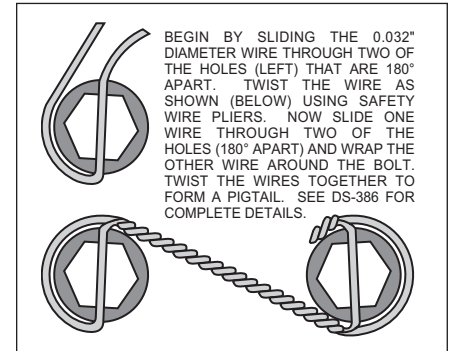

Figure 3. Safety Wire Diagram
- Insert one sleeve (2) each into the holes on the top and bottom of the spindle “ears” where the OEM caliper bracket was removed. Apply red *Loctite*® 271 to the caliper mounting bracket bolt threads (4) before installation of the caliper mounting bracket (1). Install the caliper mounting bracket (1) with the threaded inserts facing the outside of the vehicle. Slide bolt (4) through lock washer (3) into the previously installed insert (2) from the backside of the spindle. Finger tighten. Repeat for the lower mounting holes. Torque bolts to 47 ft-lb.
- With the larger I.D. side of the rotor (5) facing away from the hat (6), bolt rotor (5) to hat (6) through the backside of the rotor using washers (7) and bolts (8). Torque bolts (8) to 120-144 **in-lb**. Safety wire bolts (8) using standard 0.032 inch diameter stainless steel safety wire as shown in Figure 3. Please refer to Wilwood’s data sheet DS-386 (available at www.wilwood.com/pdf/ds386.pdf) for complete safety wire installation instructions. Slide the rotor/hat assembly onto the spindle. Install a couple of lug nuts (finger tighten) to keep the rotor/hat assembly in place while continuing with the installation.
- NOTE:** Please reference the caution statement at the beginning of the assembly instructions. With the bleed screws pointing up, mount the caliper (9) onto the caliper mounting bracket (1) using two bolts (10), two lock washers (11) and two shims (12). View the rotor (5) through the top of the caliper (9). The rotor (5) should be aligned in the center of the caliper (9). If not, loosen the two bolts (10) and adjust the caliper (9) by using 0.035 inch thick shim washers (12). The shim washers (12) should be placed between the caliper (9) and the caliper mounting bracket (1). Finger tighten and recheck alignment. Add as many shim washers (12) as necessary to achieve the correct alignment. Always use the same amount of shims on both the top and bottom caliper mounting bolts (10). Loosen the two bolts (10) and apply red *Loctite*® 271 to bolt threads (10) and torque to 30 ft-lb. Safety wire the two bolts (10).
- Install the disc brake pads (13) and secure using cotter pin (14). Repeat this procedure for the other wheel.